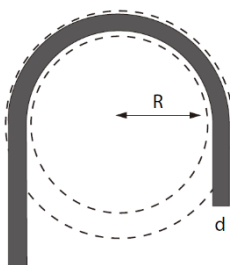

Figure 7 Minimum Bend Radius
- When wiring modules, always keep in mind the minimum bend radius (see Figure 7). This minimum bend radius is the permissible curvature the cable can be bent around. Depending on the type of cable, a specific coefficient (Cable multiplier), must be applied. For our DC cables this parameter is 4.